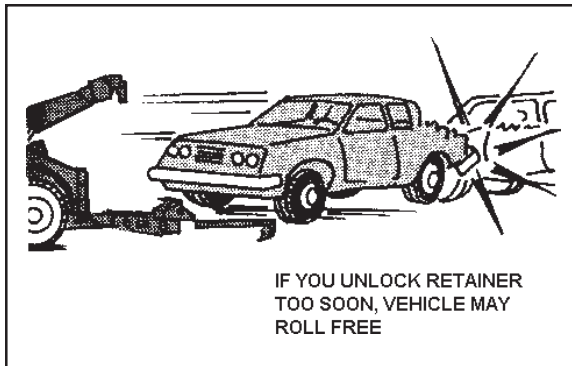

Figure 4-10.
5. Operate the underlift to lower the wheels to the ground until the tires barely touch. (See Figure 4-10.)